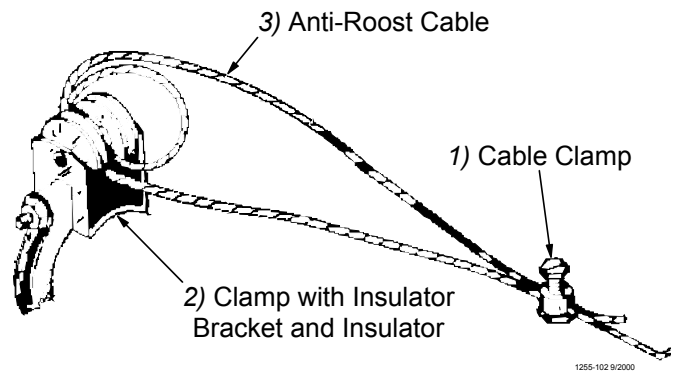

Figure 81. Anti-Roost Cable at the Hopper
2. Start at the hopper end of the line and form a loop around the anti-roost bracket. For best results, make a double loop around the anti-roost insulator in the center groove of the insulator and fasten with a 1/16" cable clamp as shown in **Figure 81**.